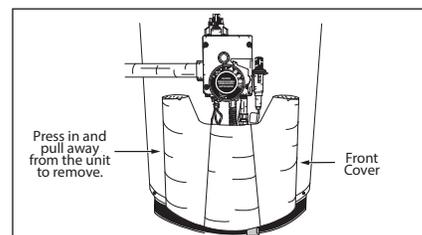

Figure 46 - Front Cover Inlet Damper.
- 3** Remove the front cover by pressing in at the left side of the cover and pull it away from the heater. (See Figure 46)